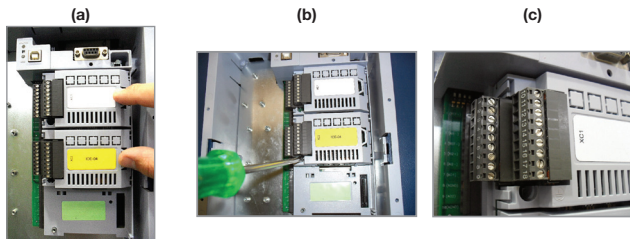

Figure 3: Installation of the optional module into slot
Step 2: Carefully plug-in the module into slots 1 and 2 (figure 3 (a));
Step 3: Place and tighten the fixing screw of the module (figure 3 (b));